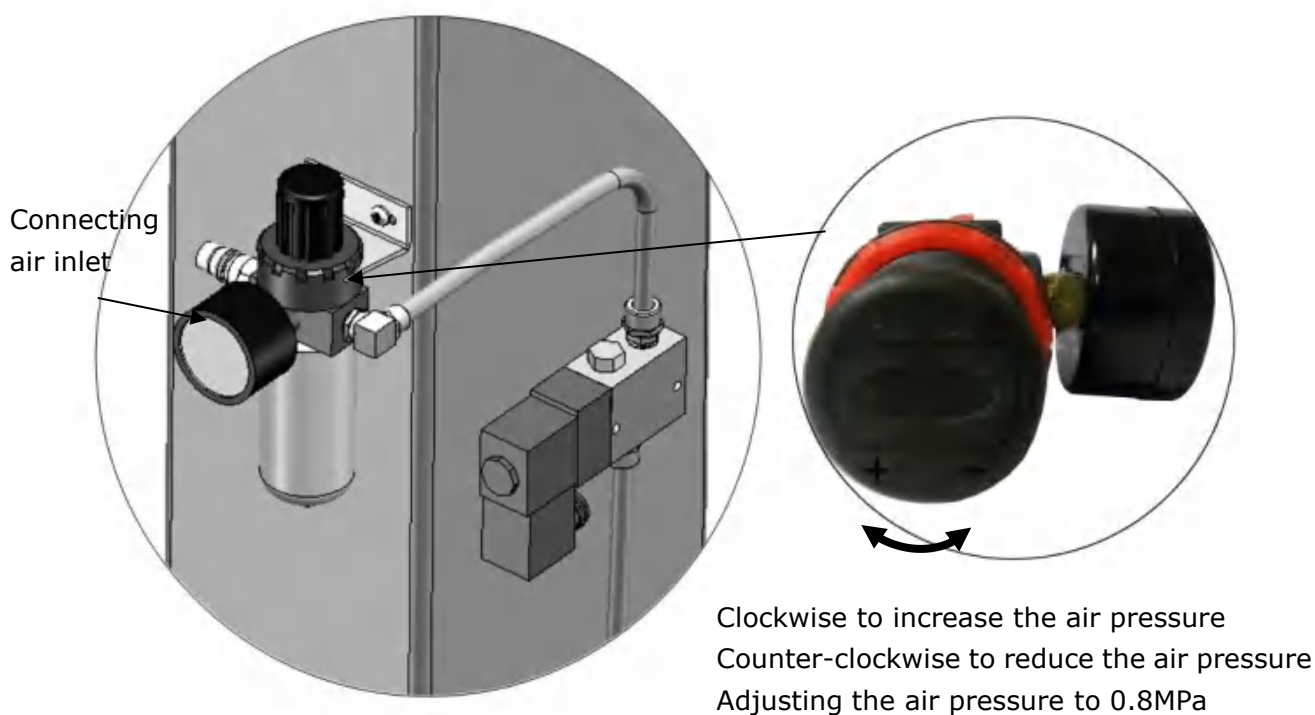

Fig.37
5. Connecting air inlet (Air supply pressure 8MPa), adjusting the air pressure of Oil-water separator to 0.8MPa (**See Fig. 37**).